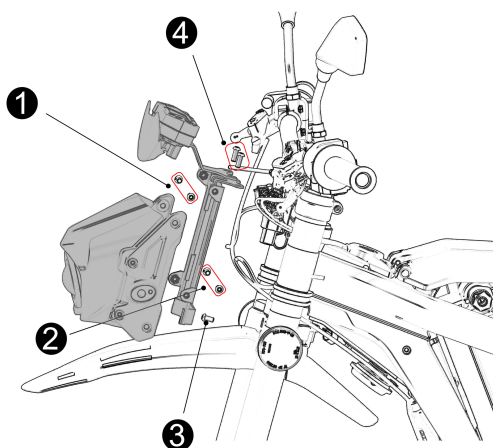

Fig 10
6.4.1 Disassemble front bow cap and instrument (see Fig 10)
- Dismount bolts of bow cap①②, take down front bow cap and disconnect lamp line
- Dismount bolts of support of bow cap③④, disconnect instrument line and take down instrument and support of bow cap.